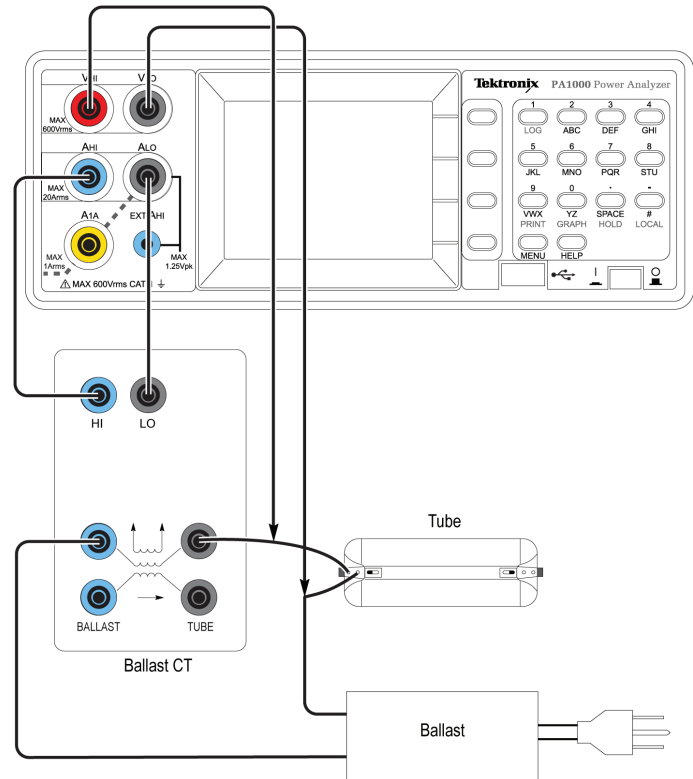

Figure 13. An example of Hardware Set up for Ballast Output Measurement.
- Connect the DUT, Ballast-CT and PA1000 as shown in Figure 13.